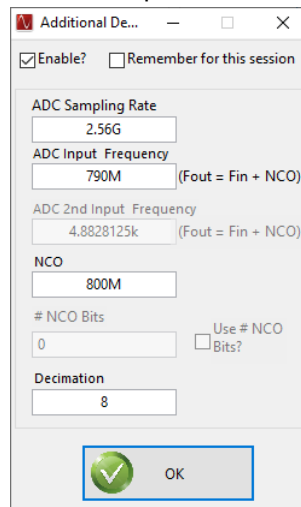

Figure 3-8. Additional Device Parameters , 8x Complex Decimation
11. Check the box labeled *Enable?* and then enter the parameters shown in Figure 3-8.